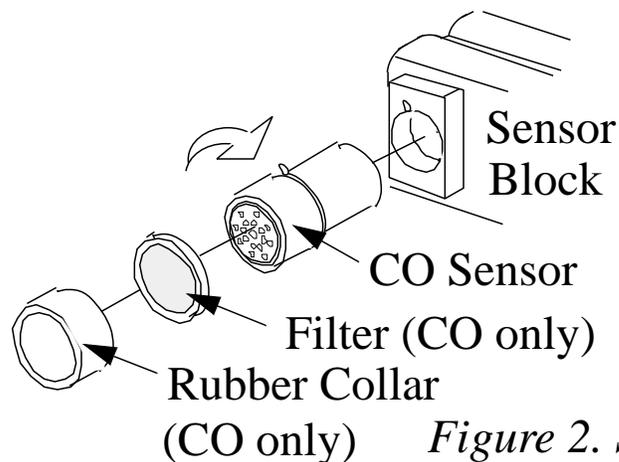

Figure 2. Sensor Insta
4. To replace individual sensors, press down and turn counter-clockwise, then pull out of block. Figure 2 shows the installation of the CO sensor with filter; do not use the filter with other sensors.
Replace the filter when CO readings become suspect (e.g., CO circuit calibrates properly, but shows response in a known CO-free environment), or when replacing sensor, whichever comes first. See Figure 2.